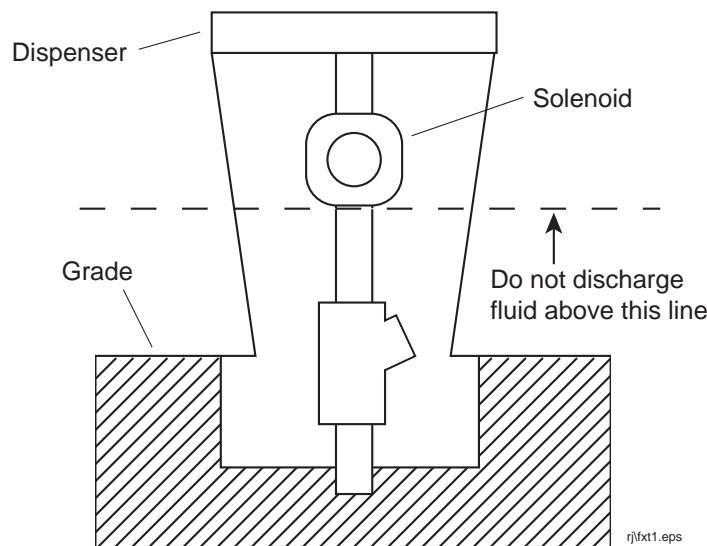

Figure 4.
**DO NOT attempt to perform a leak test above the solenoid valve. Properly installed leak detectors may not react to leaks above solenoid valves that are normally inside dispensers - sometimes several feet above island level. See Figure 4.**